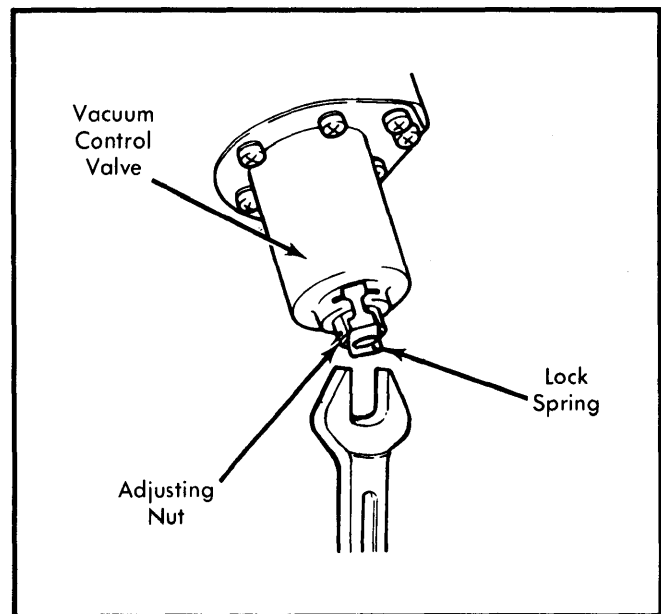

Fig. 5 Adjusting Throttle Opener Control System Operating Pressure
- 4) If necessary, turn adjusting nut on end of vacuum control valve to obtain specified operating pressure. Turn adjusting nut clockwise to increase pressure and counterclockwise to decrease pressure. See Fig. 5.